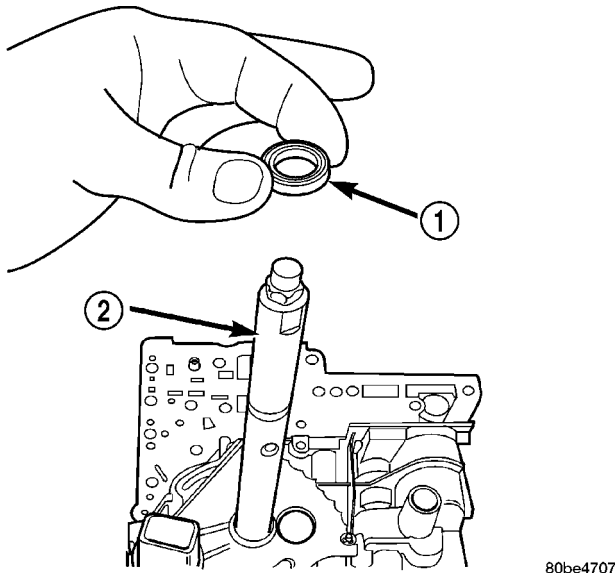

Fig. 371 Manual Shaft Seal
(16) Install manual shaft seal (Fig. 371).